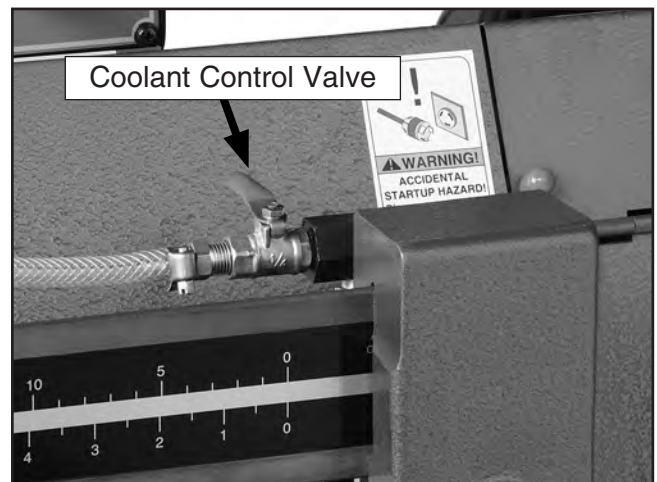

Figure 24. Coolant control valve.
6. Adjust the valve on the coolant hose to control the flow of coolant (see **Figure 24**). Make sure that the pressure is not so high that coolant spills on the floor and creates a slipping hazard.